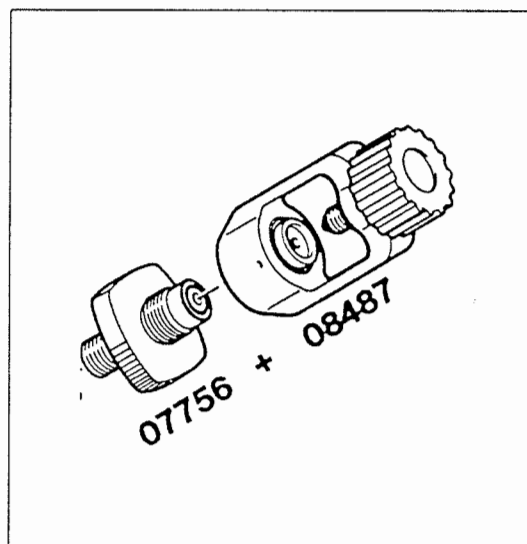

Fig. 25 International filling connector
- Air bottles with international filling connector can be connected with filling adaptor (PN 08487-635) to the German filling connector (see Fig. 25).